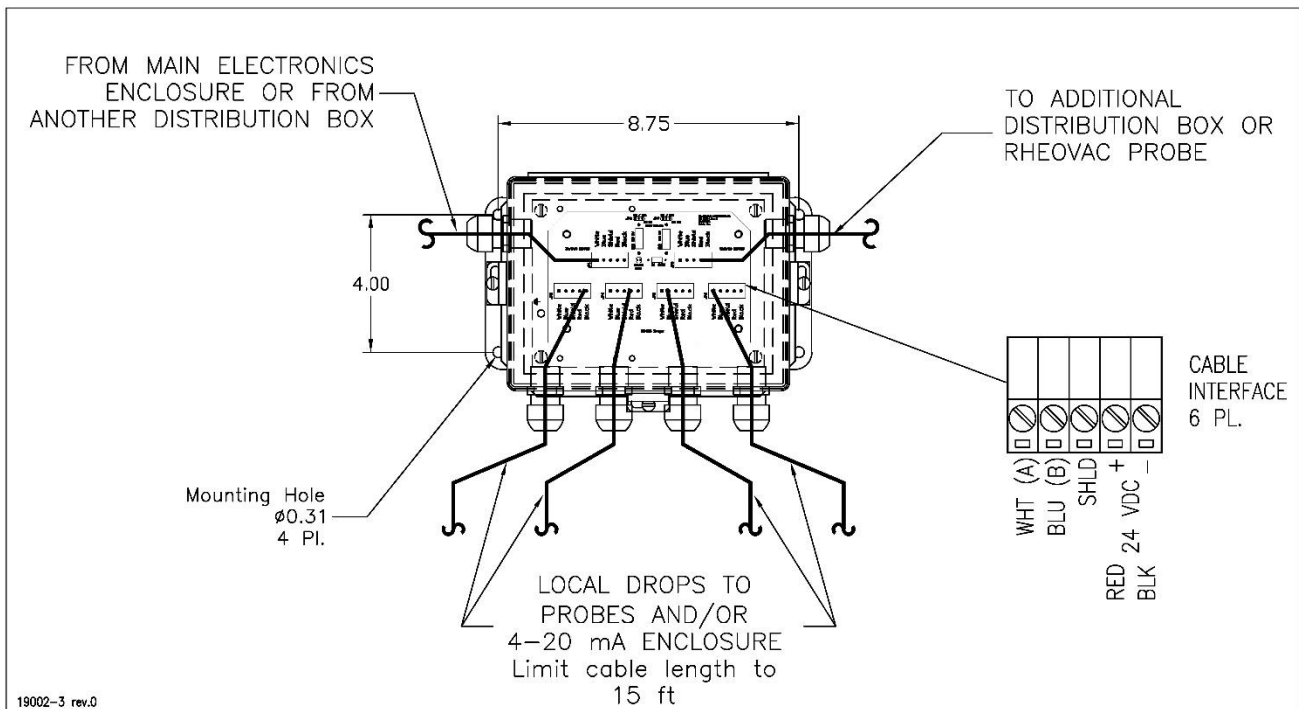

Figure 6: Distribution Box
### 2.2.3 Distribution Box (see Figure 6) – For distributing RS485 communication and 24VDC
1. Connect the provided DeviceNet 5711 cable from the main processor unit to screw terminal, JP1. The color code for this cable is: **RS-485 communications**: white (A), blue (B) and shield (SH); **power**: 24Vdc, red (+), and black (-).
4. Connect the probes to the distribution enclosure using the manufacturer supplied DeviceNet 5711 cable to the screw terminals labeled JP3 to JP6 (refer to Figure 6).